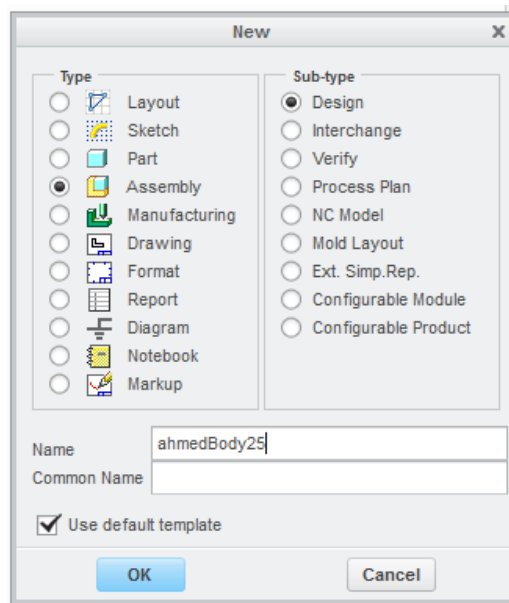

Figure 1.8: Step 8, starting an assembly mode
8. File → New → Assembly → Name. as shown in figure 1.8.